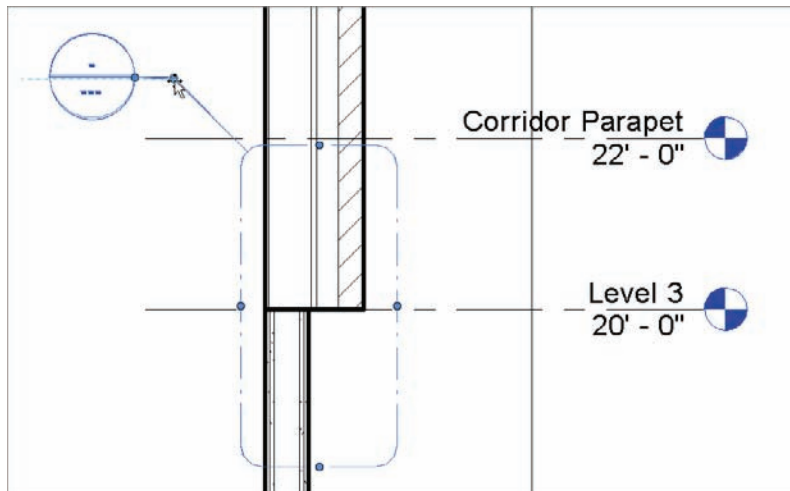

FIGURE 3.64 Adjusting the callout will be a common task.
9. Drag the bubble to the location shown in Figure 3.64.
10. Pick the blue midpoint grip on the leader and create an elbow, as shown in Figure 3.64.